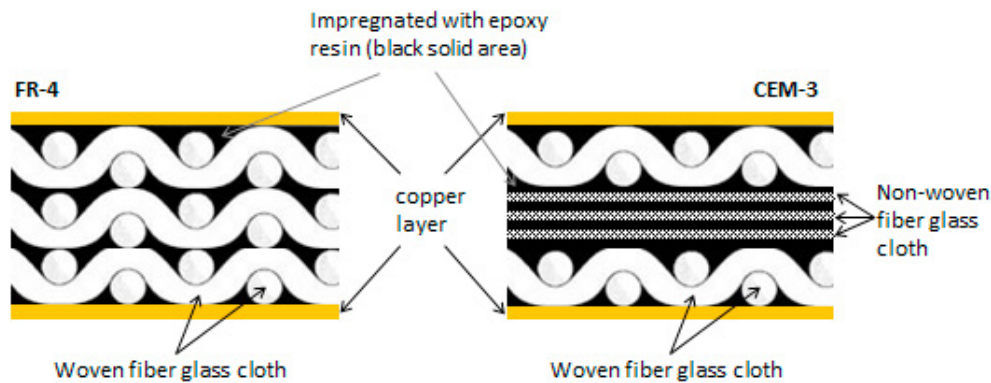

Figure 14. Cross section of a FR-4 and CEM-3 PCBs. Not drawn to scale; for illustration purposes only.
- FR-4 (woven fiber glass fabrics reinforced epoxy laminate, Figure 14) sheet or CEM-3 (composite epoxy material constructed from both woven and non-woven fiber glass fabrics, Figure 14). These two materials have excellent electrical insulation properties but have very poor thermal conductivity. Between these two, CEM-3 thermal conductivity is generally better than FR-4. For detail specifications of PCB, refer to a standard generated by Association Connecting Electronics Industries, (www.ipc.org), IPC-4101C "Specification for Base Materials for Rigid and Multilayer Printed Boards" standard.